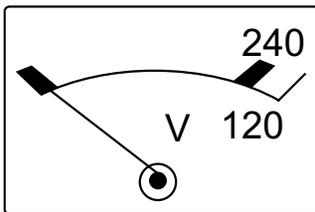

Figure 50. AC Voltmeter (Zero Volts)
- Verify that the AC voltmeter (Figure 50) on the generator reads zero volts.